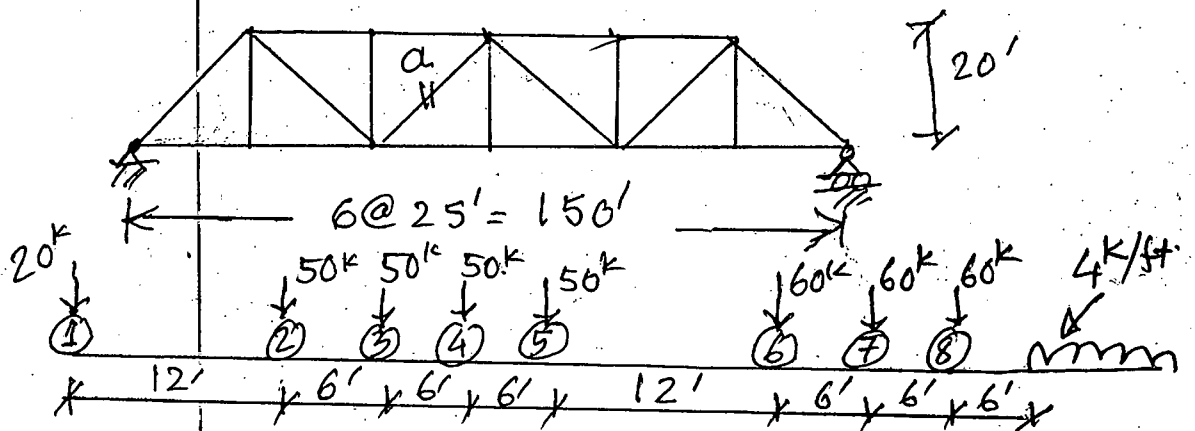

Fig. 6
7. Calculate maximum compression in member "a" of the truss and the wheel loads shown in Fig. 6.